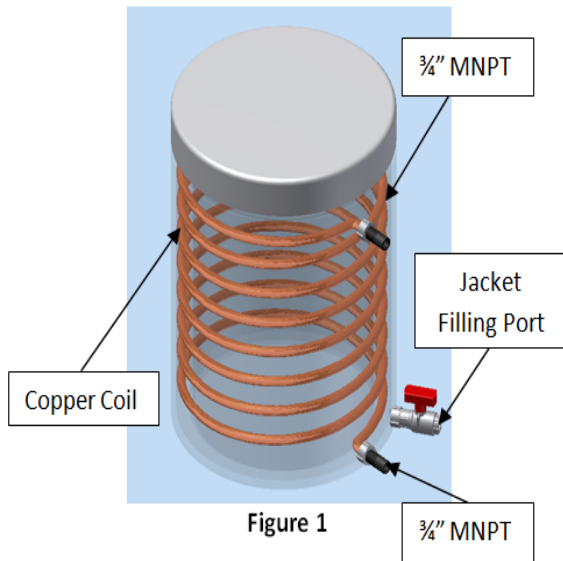

Figure 1
The objective of our Engineers was to design a temperature controlled tank that is low in cost and convenient to use. The inner tank has a copper coil that is wrapped around the outer diameter seven times to maximize the heating or cooling efficiency, see Figure 1 and Photo 1. The jacket containing the copper coils is filled with heat transfer liquid, which is filled through the jacket filling port to transfer BTU's from the heating/cooling coils to the inner tank efficiently, see Figure 1 and Photo 1. This design ensures that the liquid in the tank can be heated or cooled while keeping the inner tank at a constant temperature for long abtained periods. Since it is connected to a heating or refrigeration system, the tank does not have to be moved in or out of cold room or incubators, which saves production time. The size of the Plastic Jacketed Heating/Cooling tank is about the same size of normal storage tanks so standard storage tank dolly is useful.
**Figure 1:** It shows the copper coil wrapped around inner tank with the 3/4" MNPT inlet and outlet connections. This allows for constant temperature control throughout the entire tank.